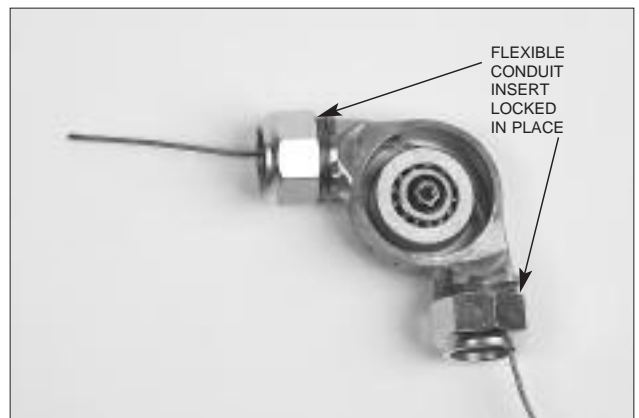

FIGURE 3
3. Tighten the nut to the connector conduit body, locking the flexible conduit insert in place. See Figure 3.